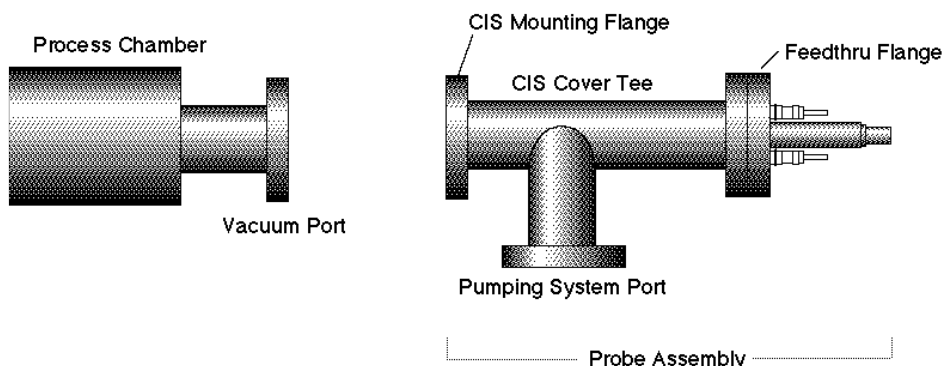

Figure 1 CIS Probe Installation
For applications requiring the sampling of gas pressures <2mTorr, the CIS Probe is directly attached to any standard 2.75" CF port of the vacuum chamber. The CIS ionizer does not penetrate into the process chamber (see Figure 1). A short, wide piece of tubing establishes the connection to the process region. Due to the high conductance of the ionizer, the pressure in the ionization area is the same as in the vacuum chamber.
2. Remove the plastic plug from the CIS Mounting Flange (See Figure 1). Avoid contamination following good high vacuum practices. Do not touch with bare fingers any part of the probe that will be exposed to the vacuum. Do not talk directly at an open vacuum port.
The Pumping System usually attaches directly to the probe's Pumping System Port (see Figure 1). Carefully follow the manufacturer's instructions while mounting and interconnecting the pumps and their controllers.